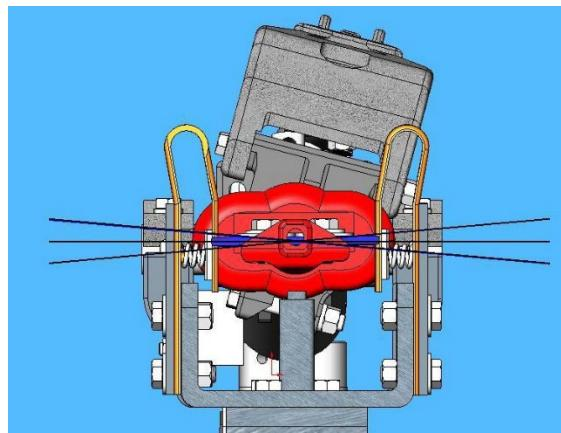

Figure 7: Blade Tip Must Be As Flat in the Jaw as Possible
2.1.5. These switches will have adequate contact pressure if the blade has rotated to within plus or minus 5° of perpendicular in the contacts as shown in **Figure 7**. Adjustment of the bearing stop may be required.